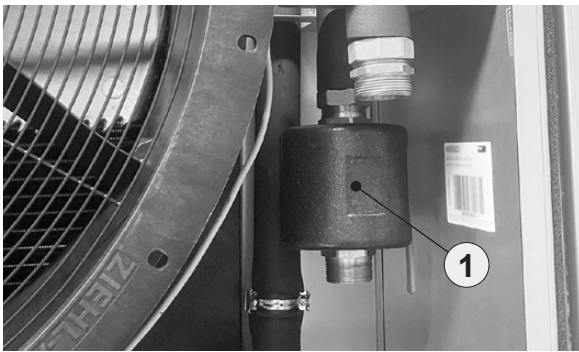

Fig. 15
A filter ball valve (strainer) (1, Fig. 15) is installed in the return of the outdoor unit, which is located at the bottom right, directly in front of the lead-through into the refrigeration section.
3. Remove the hard shell insulation from the ball valve (1, Fig. 15).